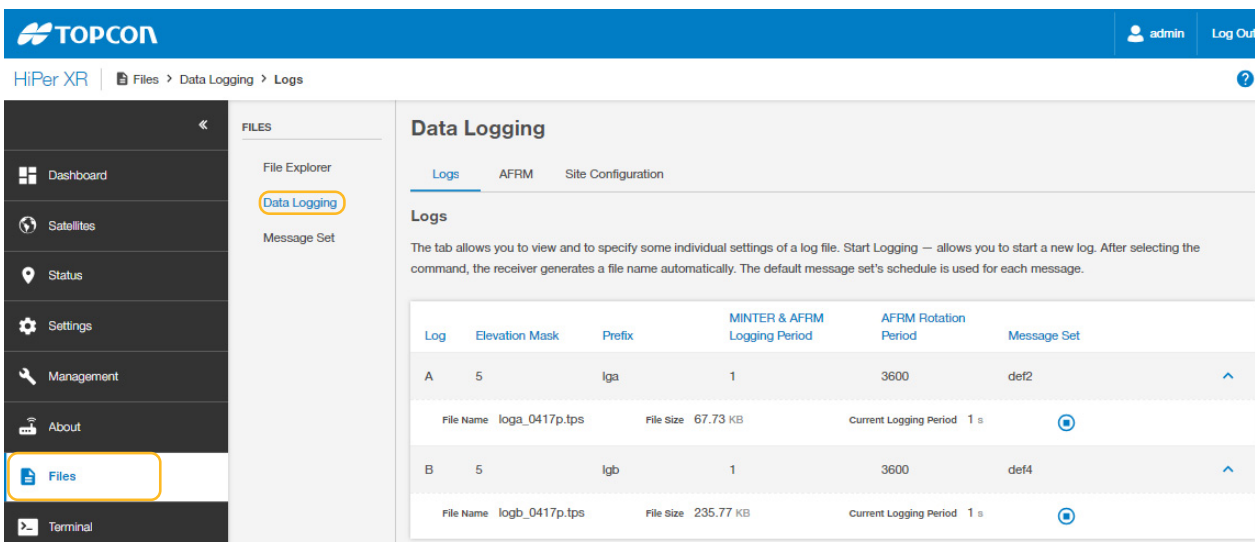

Figure 2-26: Data Logging - Logs
1. Connect the receiver to a field controller or computer to open the on-board web UI (Figure 2-26).